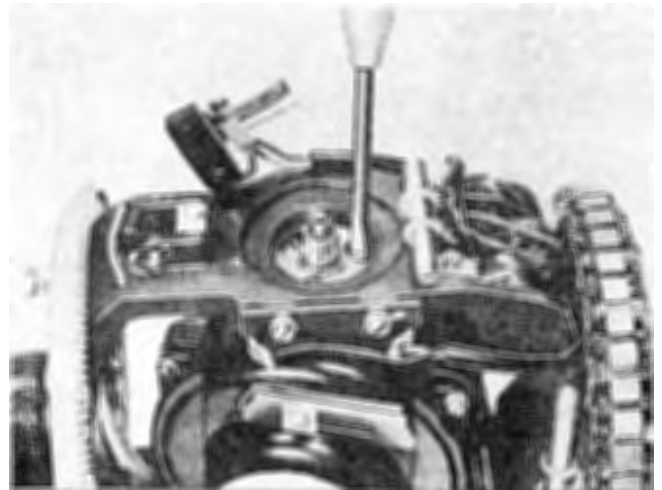

Figure 31
5. Remove the three fillister-head machine screws and lock washers, and withdraw the flange contact, using extracting tool T100363. (See figure 31.)